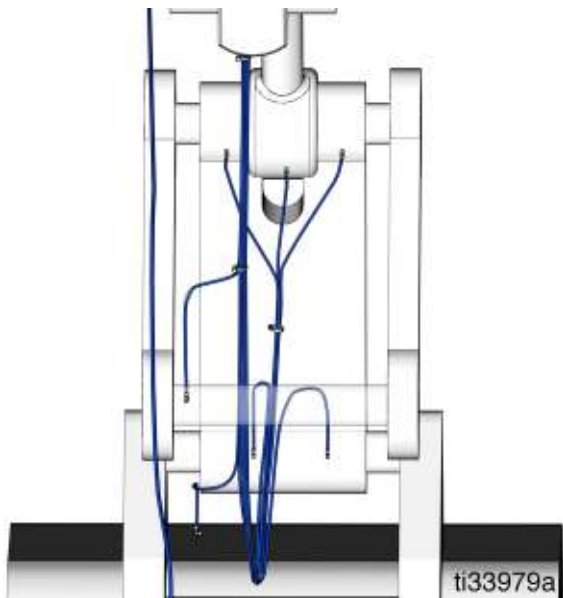

FIG. 25: Bottom View
- See FIG. 18 through FIG. 25 for hose routing examples.